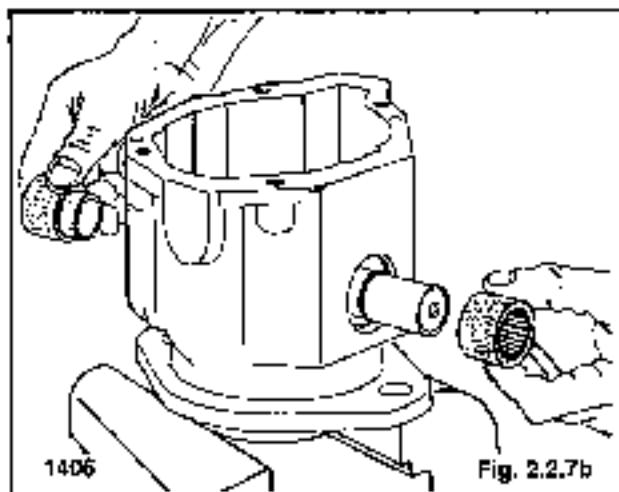

Fig. 2.2.7b
2. Insert the needle bearings and inner races over the complete shafts and slide them into the housing (fig. 2.2.7b). The numbered end of both the bearings and races should face outward and the chamfered ID. of the races should face inward.
2. Insert the needle bearings and inner races over the camplate shafts and slide them into the housing (fig. 2.2.7b). The numbered end of both the bearings and races should face outward and the chamfered I.D. of the races should face inward.